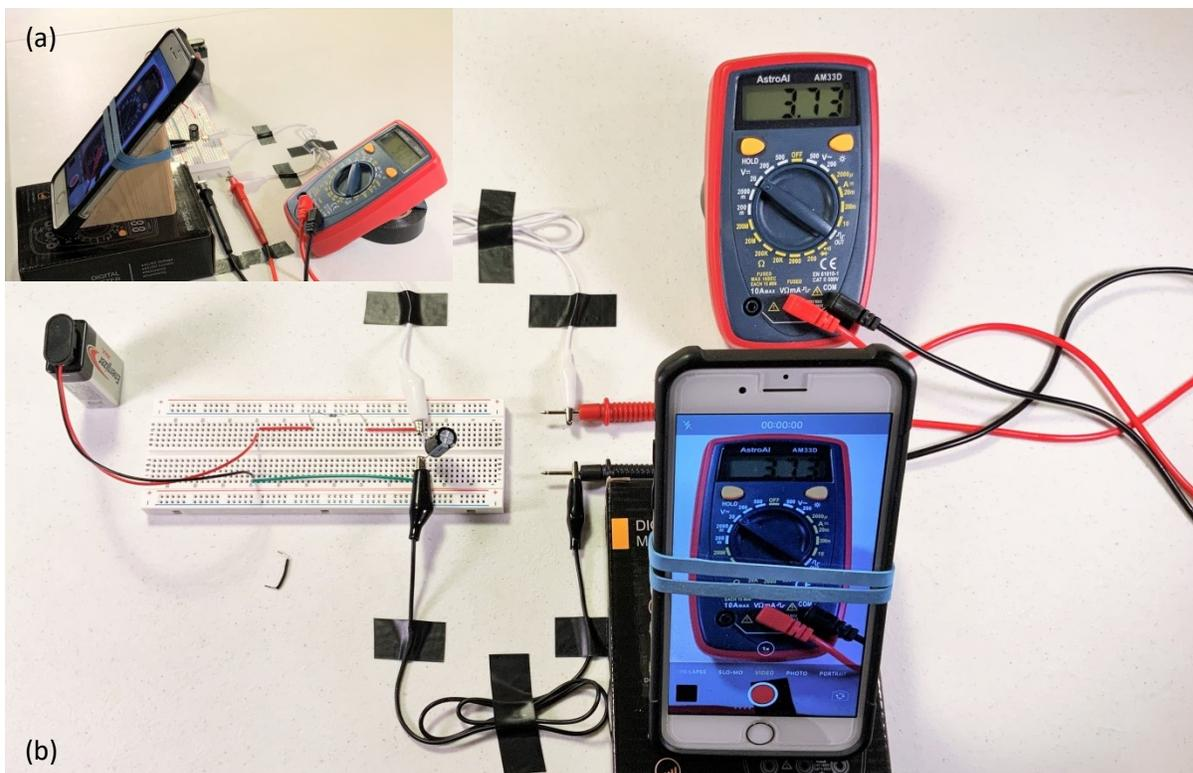

Fig. 6: Smartphone and multimeter arranged to record voltages as the capacitor charges.
5. Prop up/position your smartphone or webcam (see Fig. 6) so that the camera is pointed at the multimeter screen.
2. Plug the battery into the circuit as shown in Fig. 5 and Fig. 6.